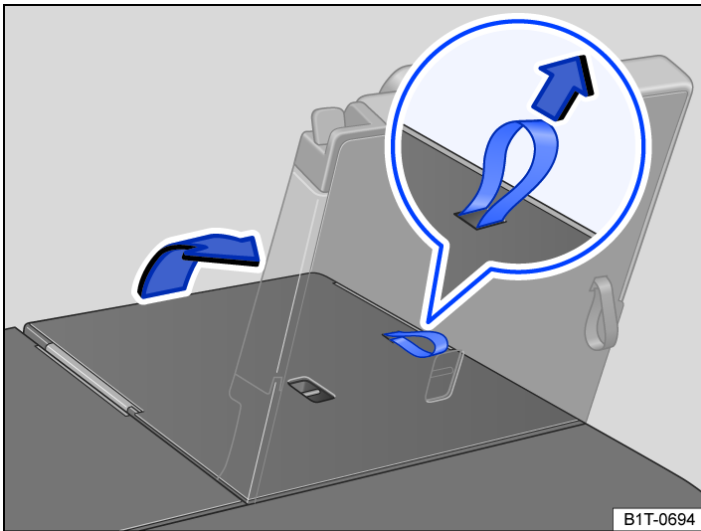

Fig. 2 Third row seat: folding the rear seat back.
3. To fold the rear seat backrest back, pull on the loop on the rear seat backrest → *fig. 2*.
The red marking on the release lever → *fig. 2* must no longer be visible.